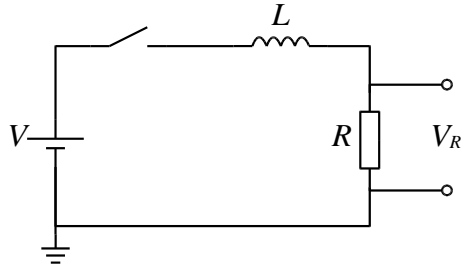

Figure 4 The setup to measure the time response of an RL circuit.
2. Set up the circuit shown in Figure 4. Use a series resistance (R in the diagram) that has a value comparable to R_L .